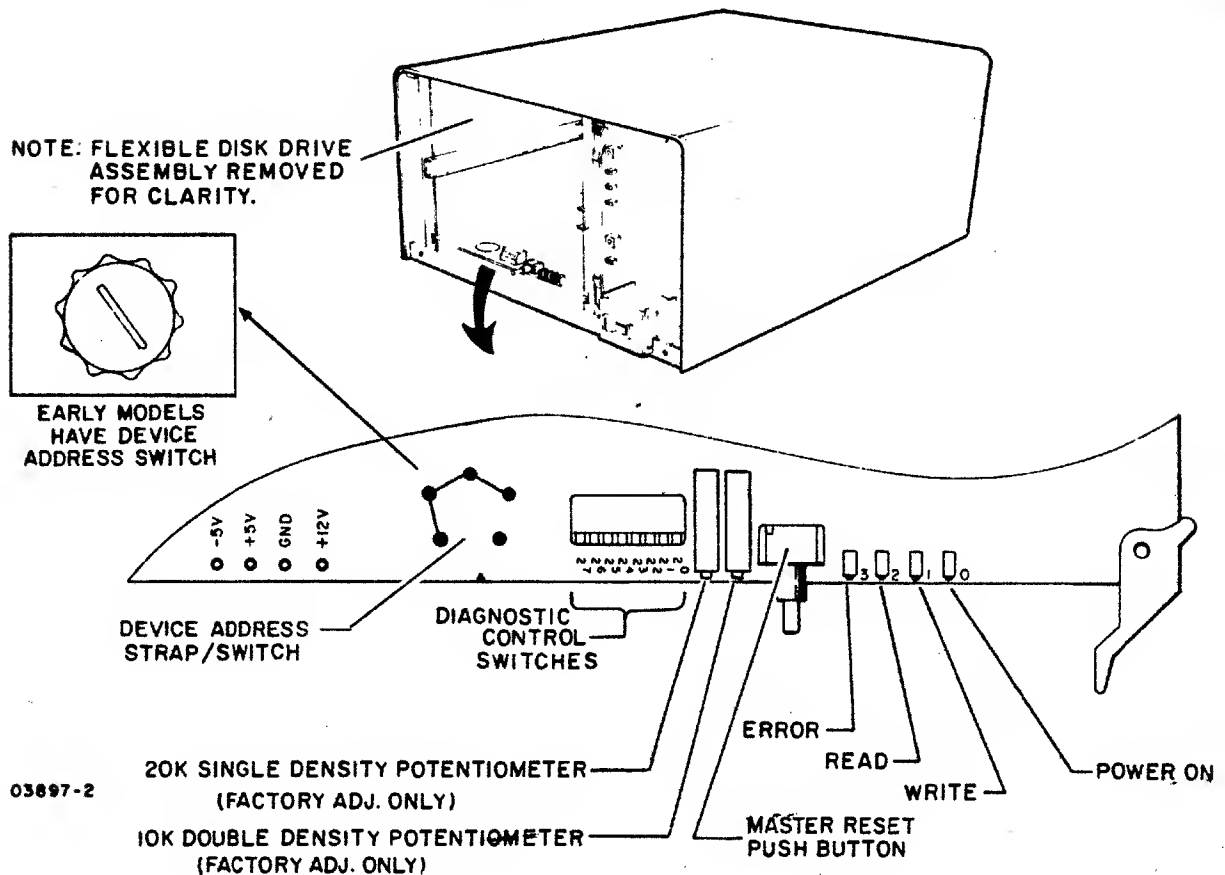

Figure 3-2. Controller Board Switches and Indicators
4. This step applies to primary flexible disk units only. Remove front panel of unit (procedure 3) and locate switches at front of controller board (figure 3-2).
2. Observe four LEDs at front of controller board (figure 3-2). Immediately after turning power on (at start of diagnostic test execution) all four LEDs are turned on for a short period of time as an LED test. As the self-test diagnostic executes, the lower three LEDs indicate which test is in process. LED 2³ lit indicates a diagnostic test error. Note that with no flexible disk installed, LEDs 2⁰, 2¹, and 2² should be lit and LED 2³ should be unlit indicating that diagnostic is at test 7 but drive is not ready.